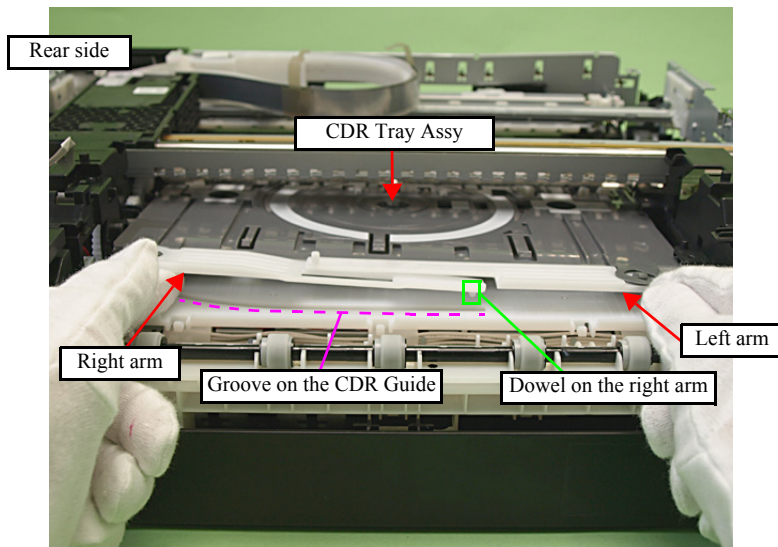

Figure 4-100. Remove the CDR Tray Assy (2)
- Make sure to insert the dowel of the right arm into the groove on the CDR Guide. (See Fig. 4-100.)
- Place the left arm over the right arm before installation. (See Fig. 4-100.)